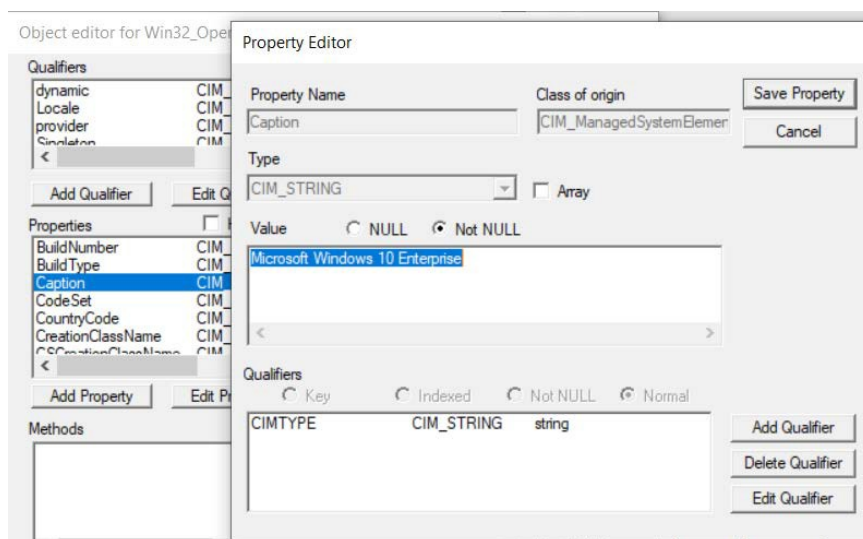

Figure F.10: WMI query - OS caption
8. Double click on the object **Win32_OperatingSystem=@**. Properties of this object will be listed as shown in **Figure F.10**. For example, the property 'Caption' has a value 'Microsoft Windows 10 Enterprise'. The WMI query for this property is successful.